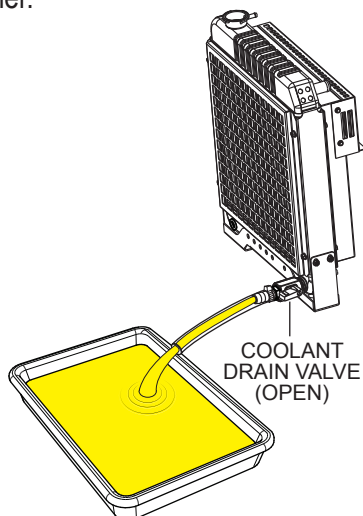

Figure 70. Draining The Engine Coolant
2. Place the **coolant drain valve** in the **OPEN** position (Figure 70) and allow the coolant to drain into a suitable container.